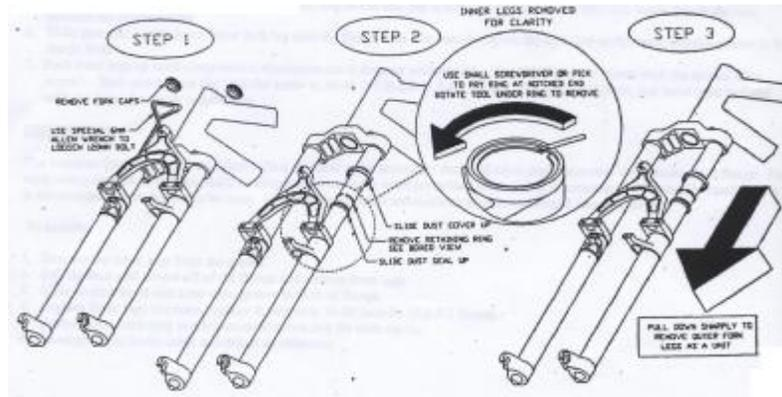

Figure 1
5. Use a small screwdriver to remove retaining ring.( Figure 1)